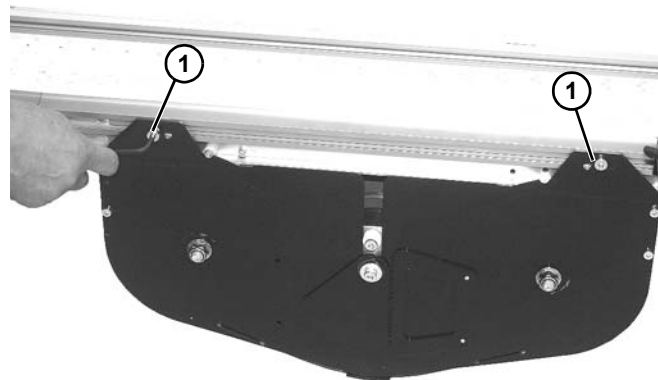

Figure 64
5. Install and tighten two screws (**Figure 64, item 1**) on each side to secure assembly to frame.